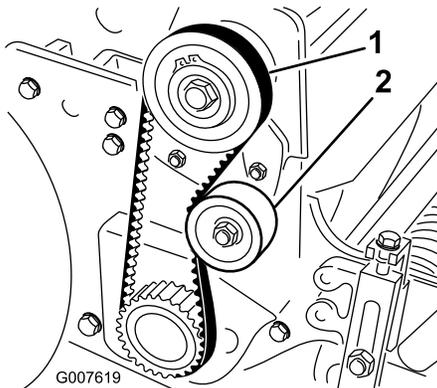

Figure 35
2. Check the tension by pressing the belt at mid span of the pulleys (Figure 35) with 4 to 5 lbs (18–22 N) of force. The belt should deflect 1/4 inch (6 mm).
- A. Loosen the idler pulley mounting nut and pivot the idler pulley clockwise against the backside of the belt until you attain the desired belt tension (Figure 35).